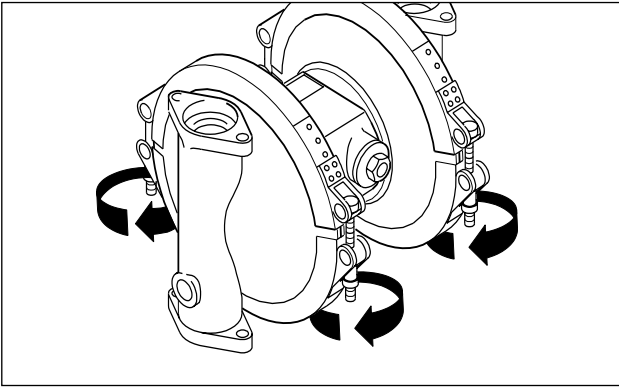

Fig. 9: Opening the clamp bands.
- Loosen the clamp bands (to avoid sizing of high-grade steel nuts and bolts, if necessary apply some oil) (Fig. 9).